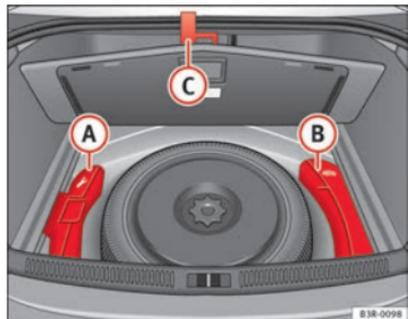

Fig. 180 Toolbox and jack
The tools (A) and jack (B) ⇒ Fig. 180 are stored under the floor panel in the luggage compartment.
- Hook the handle (C) onto the luggage compartment weather strip.